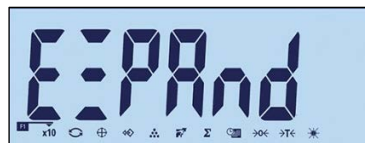
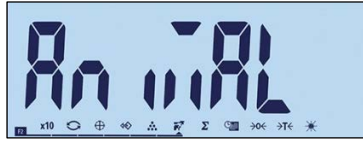

Figure 3-40: Configuring Function Key 1
Figure 3-41: Configuring Function Key 2
- Function keys can also be configured from the home screen. Press and hold the function key to be configured to access the configuration screen (Figure 3-40, Figure 3-41).
Access the F2.1.1 menu. Use the up $\rightarrow 0 \leftarrow$ and down $\rightarrow 1 \leftarrow$ keys to select the required function from the options shown in Table 3-3. Focus will change to indicate the selected function, as shown in Figure 3-40, where **Expand x10** is selected. Press $\rightarrow \leftarrow$ to confirm the selection.
Access the F2.1.1 menu and use the up $\rightarrow 0 \leftarrow$ and down $\rightarrow 1 \leftarrow$ keys to select the required function. Focus will change to indicate the selected function, as shown in Figure 3-41, where **Animal Weighing** is selected. Press $\rightarrow \leftarrow$ to confirm the selection.